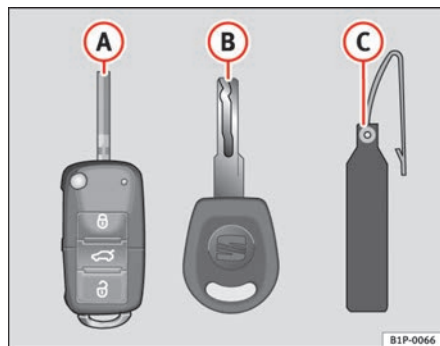

Fig. 54 Set of keys
- one remote control key ⇒ fig. 54 **A** with folding key bit*,
Spare keys cannot be issued without the key number on the key tab ⇒ fig. 54 **B**. Therefore: